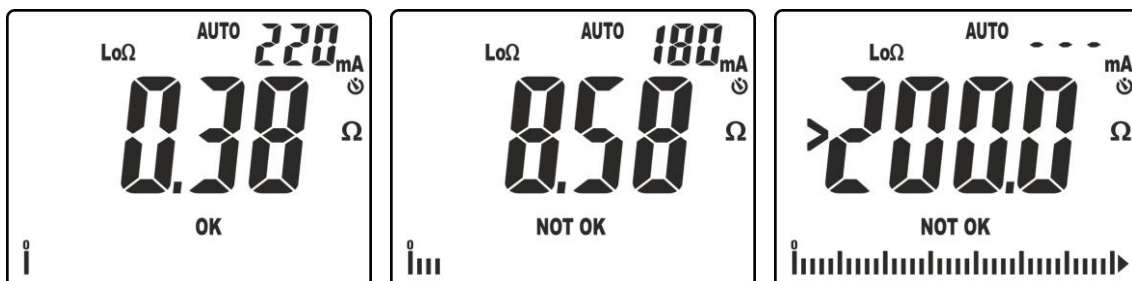

Fig. 28: Results of continuity test in AUTO mode
10. In the screen in Fig. 28 – left side, a positive test result "OK" is shown (value lower than the set threshold and test current **>200mA**). In the screen in Fig. 28 – middle, a negative test result "NOT OK" is shown (value higher than the set threshold and test current **<200mA**). In the screen in Fig. 28 – right side, a negative test result "NOT OK" is shown, corresponding to the out-of-range condition (symbol "**>200.0**").